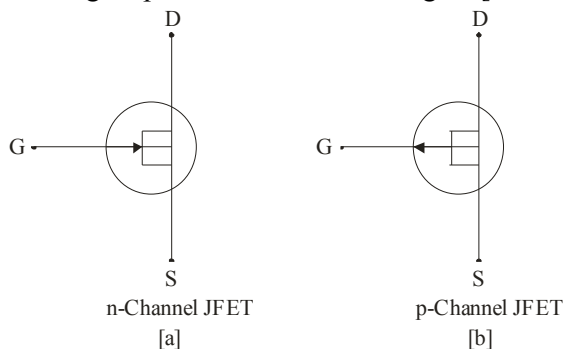

Figure.19.4
Fig. 19.4 shows the schematic symbol of JFET. The vertical line in the symbol may be thought as channel and source (S) and drain (D) connected to this line. If the channel is n -type, the arrow on the gate points towards the channel as shows in Fig.19.4 (I). However, for p -type channel, the arrow on the gate points from channel to gate [See Fig. 19.4 (ii)].